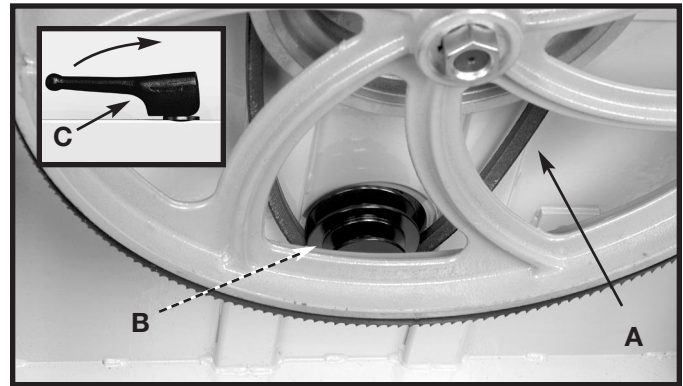

Fig. 20A
2. Release the belt tension by lifting the blade tension lever (C) inset.
3. Move the belt (A) Fig. 20A to the selected motor pulley. (B)
4. Lower the blade tension lever (C) inset.